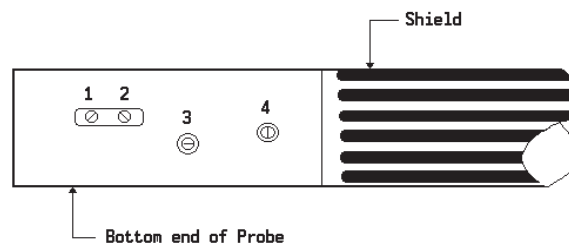

Figure 3 Linearity and Null Adjustment
1. Remove the tool from its external housing. Locate and identify adjustment slots on the end of the probe. Use Figure 3 as a reference.
4. Adjust control 2 for conductivity and control 3 for magnetic susceptibility on the probe to obtain a zero of 12.5 KHz on both channels. See Figure 3 for controls. There could be interaction between controls therefore it may be necessary to repeat this process.